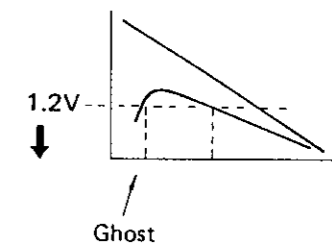

Fig. 7-8
- *1. Because of the "ghost" tendency caused by light from the tracking sensor lamp (as shown in Fig. 7-8), this adjustment must be performed with care.